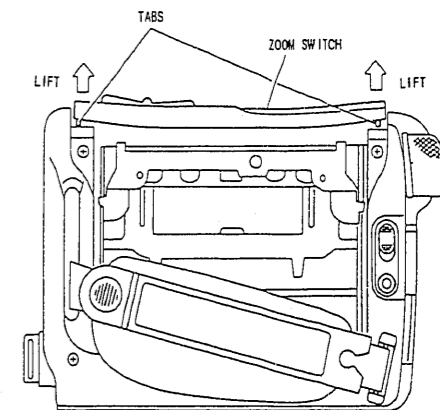
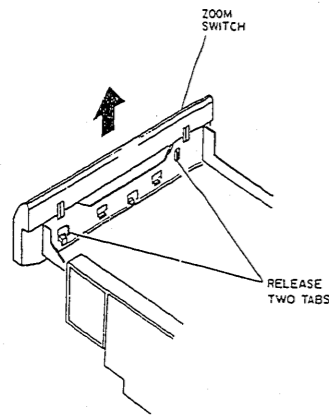

Fig. 3-8
Fig. 3-9
- (13) Lift the zoom switch and release two (2) tabs (see Fig. 3-8), then release two (2) tabs (see Fig. 3-9) and remove the zoom switch.